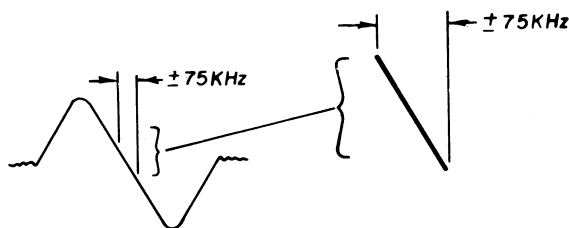

Figure 5
5. DETECTOR ALIGNMENT USING AN OSCILLOSCOPE: To align the FM detector, leave the FM generator connected as in Step 1, and move the oscilloscope lead to the REC output jack on the rear panel. The detector recovered audio can also be observed at Test Point 2, TP-2. Reduce the modulation to  $\pm 75\text{KHz}$ . Adjust the bottom core of the detector transformer, T201, for a 0 VDC reading on a voltmeter connected across R218 or adjust for zero indication on the receiver zero center tuning meter. The top core of the transformer, T201, is adjusted for best linearity as observed on the oscilloscope (see Figure 5). Recheck the voltmeter 0 reading and readjust the bottom core again, if necessary.